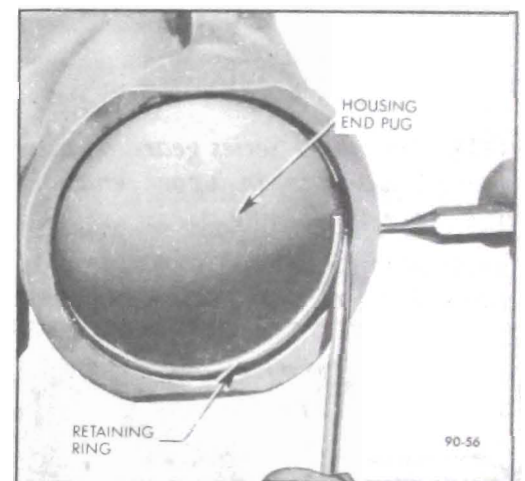

Figure 90-67 Removing Housing End Plug Retaining Ring
3. Rotate housing end plug retainer ring so that one end of ring is over hole in gear housing. Spring one end of ring with punch to allow screwdriver to be inserted to lift ring out. See Figure 90-67.